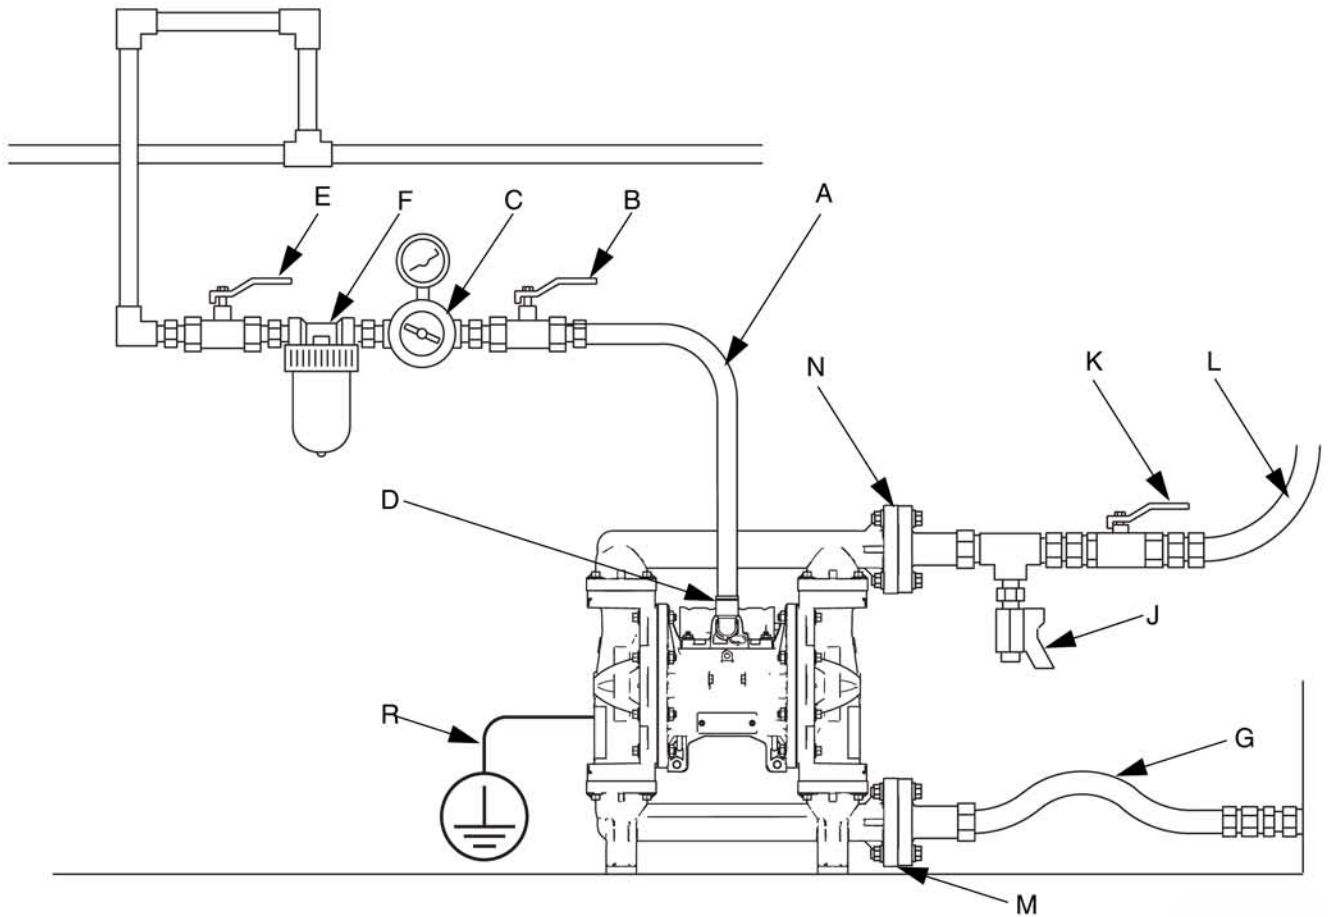

FIG. 4. Typical floor-mount installation (polypropylene, 1050P, pump shown)
See FIG. 3 and FIG. 4.
See FIG. 3 and FIG. 4
Key for FIG. 3 and FIG. 4:
- M Fluid inlet (Aluminum, FIG. 3, four ports, one not visible; Plastic, FIG. 4, center or end flanges available; Stainless Steel, not pictured, one port)
- N Fluid outlet (Aluminum, FIG. 3, four ports, one not visible; Plastic, FIG. 4, center or end flanges available; Stainless Steel, not pictured, one port)